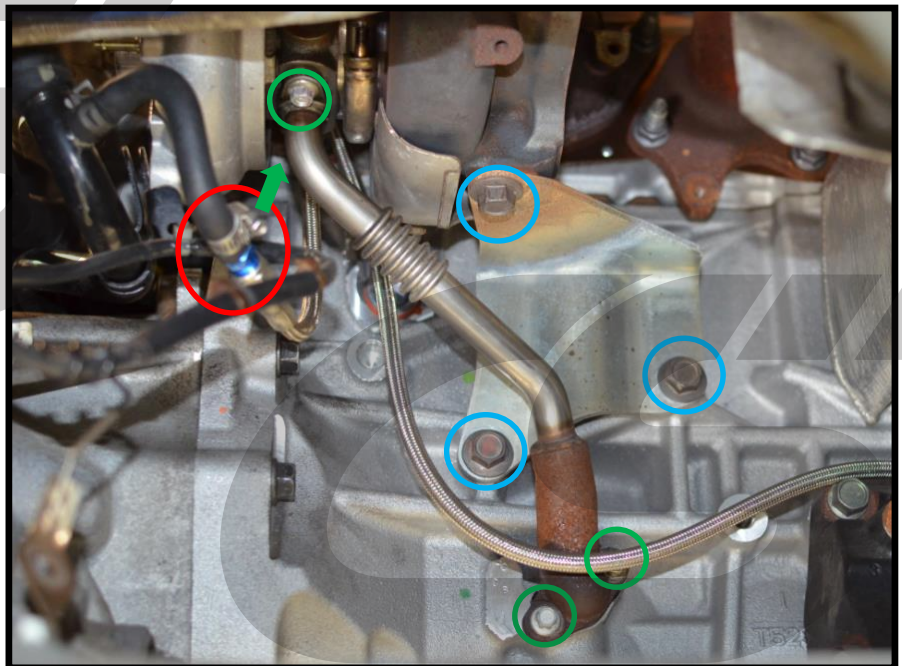

Figure 7b
- Remove the lower coolant line from the turbo, shown with the **red circle** in **Figure 7b**.
- Remove the four 8mm bolts holding the oil drain line, shown from under the car with the **green arrow & circles** in **Figure 7b**.
Be careful to not loose or damage the oil drain gaskets if you plan to reuse them. They can be reused if in good condition. Remove the three 14mm bolts holding the turbo support bracket, circled in blue in **Figure 7b**.